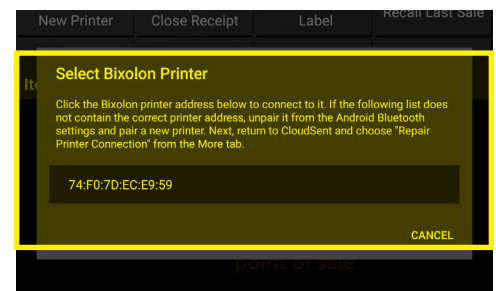

Figure 32
4. Select the correct Bluetooth address for your Bixelon printer (Figure 32).